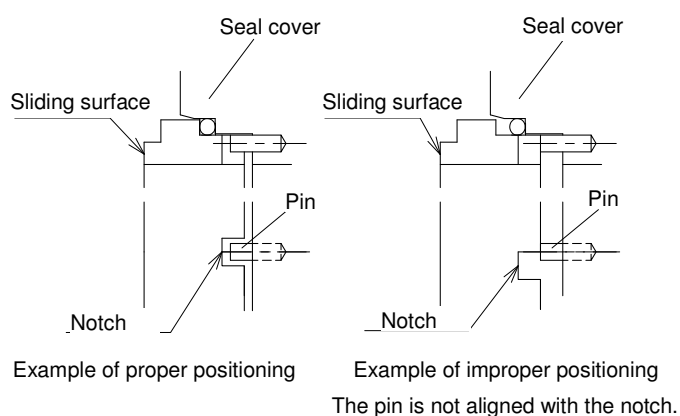

Fig 5.6-2 Relative positions of pin and notch
- (1) Put the O-ring (4120.1) in the seat (4750), and insert the seat into the seal cover (4710).
- a) Use caution about the positions of the seat whirl-stop notch and pin (5600). (See Fig 5.6-2)